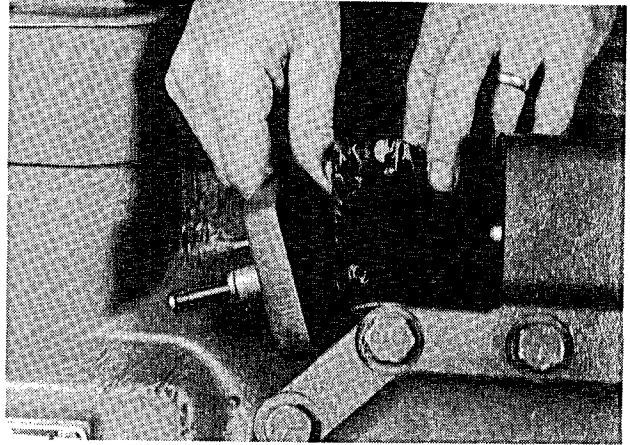

Figure 9
2. Remove the four mounting bolts and pull the valve body, mounting plate and gasket away from the unloader valve housing (Figure 9).